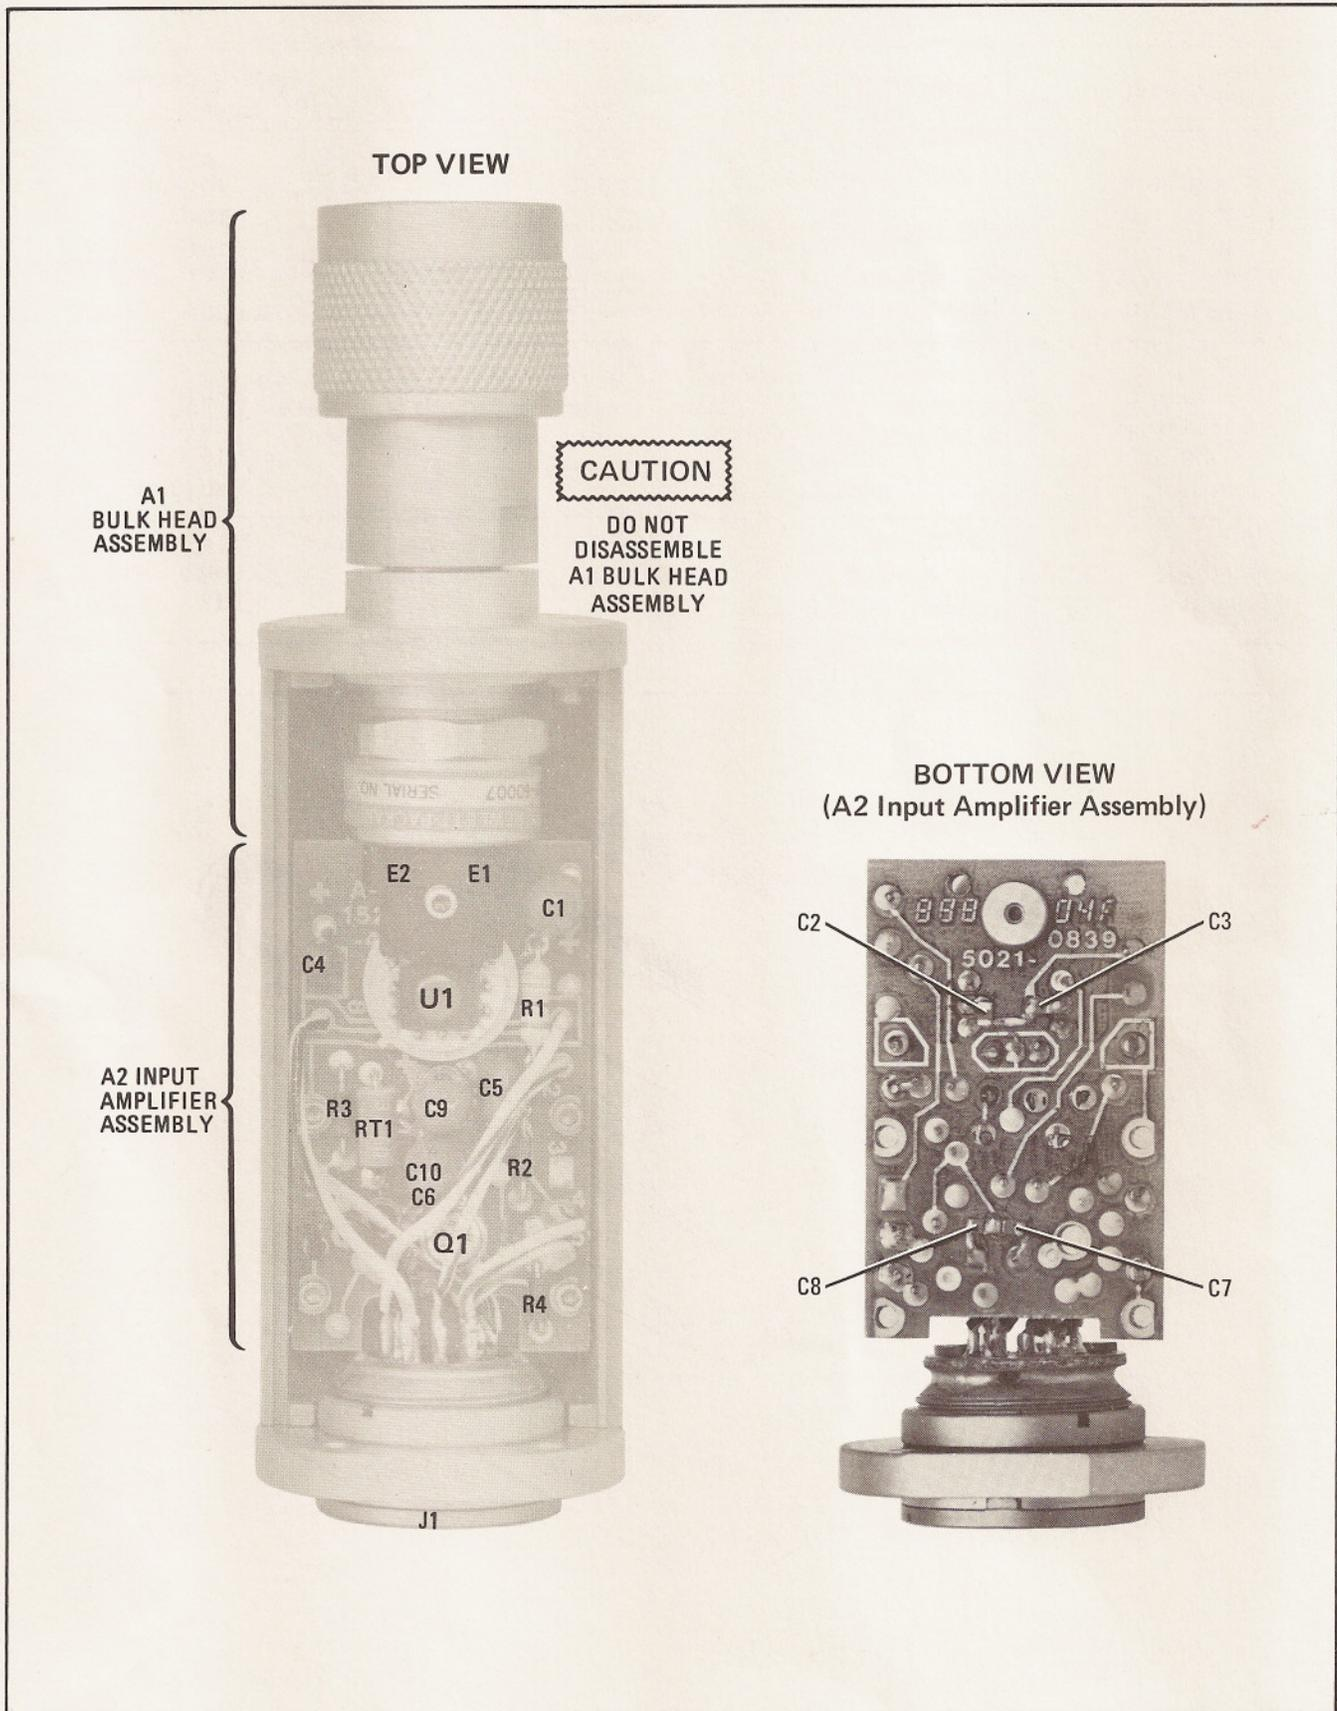

Figure 3. Component and Assembly Locations
48. Figure 3 shows the locations of the assemblies and components. Figure 4 is the schematic diagram.